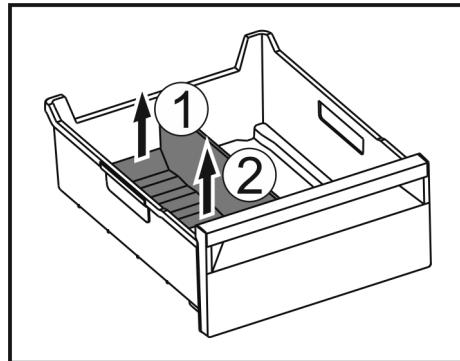

Fig. 157
- ▶ Lift the rear part of the ice compartment divider. *Fig. 157 (1)*
- ▶ Remove the ice compartment divider upwards. *Fig. 157 (2)*